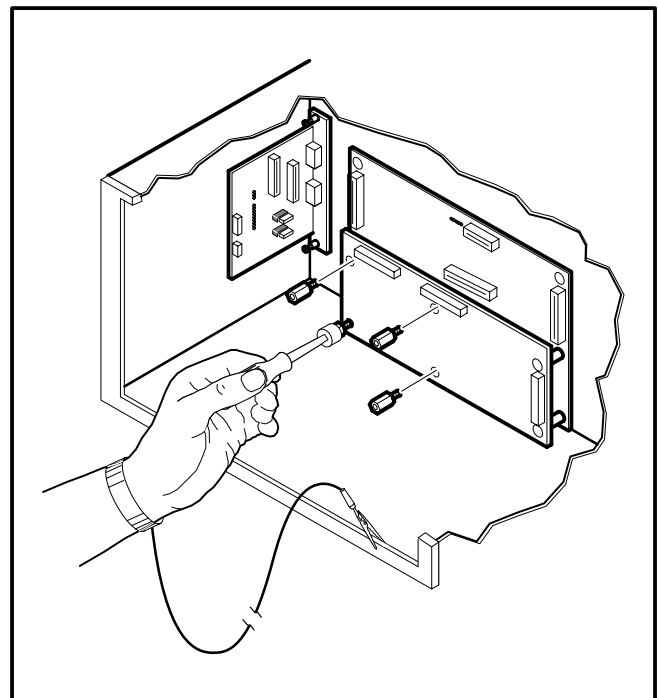

FIGURE 3-2. INSTALLING STANDOFFS
6. Install four new standoffs in place of the analog board mounting screws removed in step 5 (Figure 3-2). Tighten the standoffs securely.